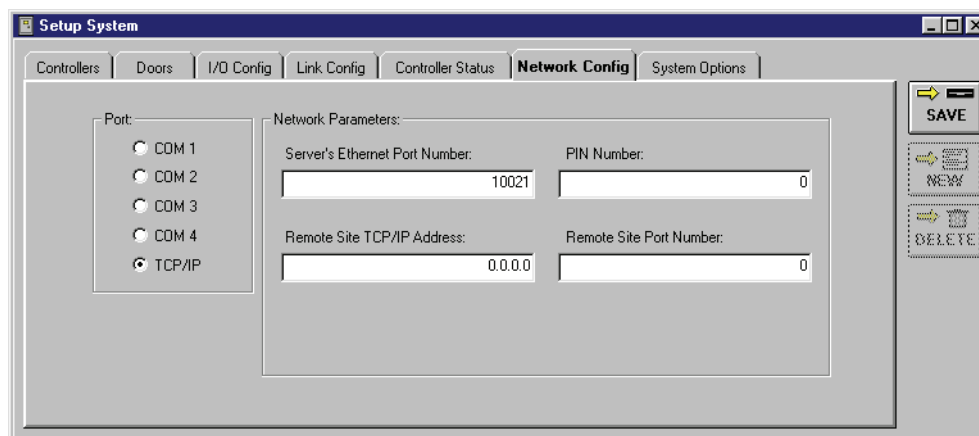

Figure 2-4: Network Configuration Tab With TCP/IP Selected
2. Click on the **TCP/IP** radio button. The Network Configuration window will add new fields for configuring the LAN-100 (see Figure 2-4).